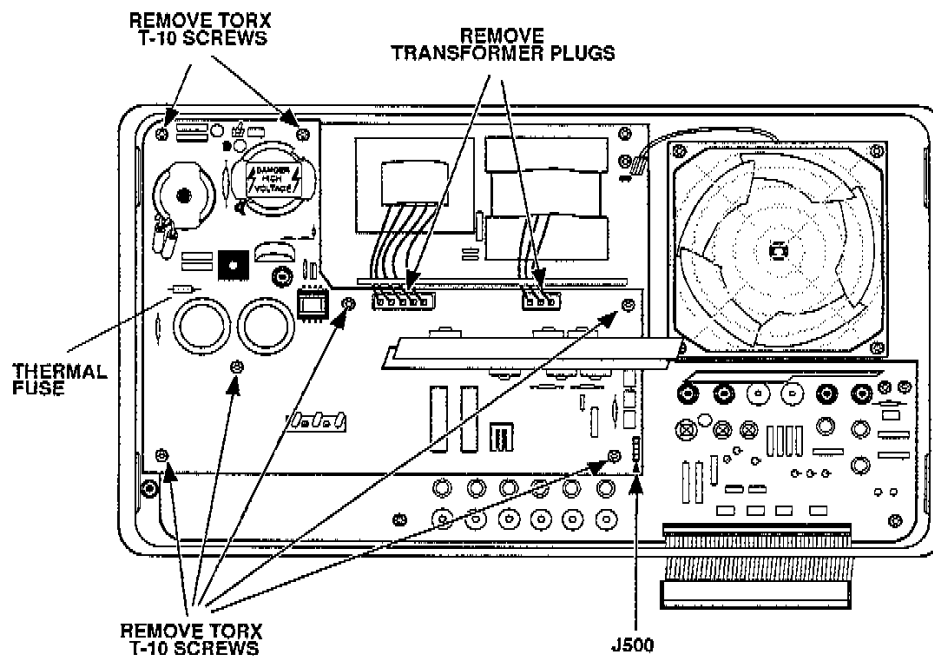

Figure 4-27. Removing the Power Supply Primary board and location of the thermal fuse.
2. Use pliers to remove the Thermal Fuse (A5A1F10). See Figure 4-27.
4. Gently lift the Primary board at the end nearest the fan to disconnect connector J500 from the Secondary board (J500 is between the two boards). See Figure 4-27.